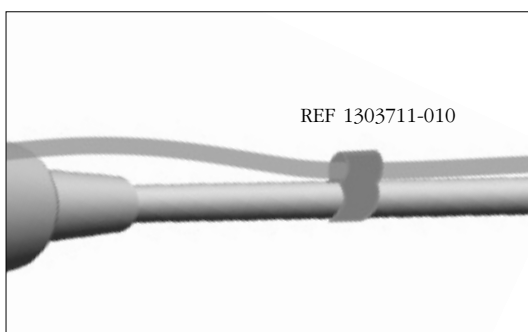

fig. 9
L. Attach the irrigation line on the motor cable using the attachment collars REF 1303711-010 **fig. 9**.